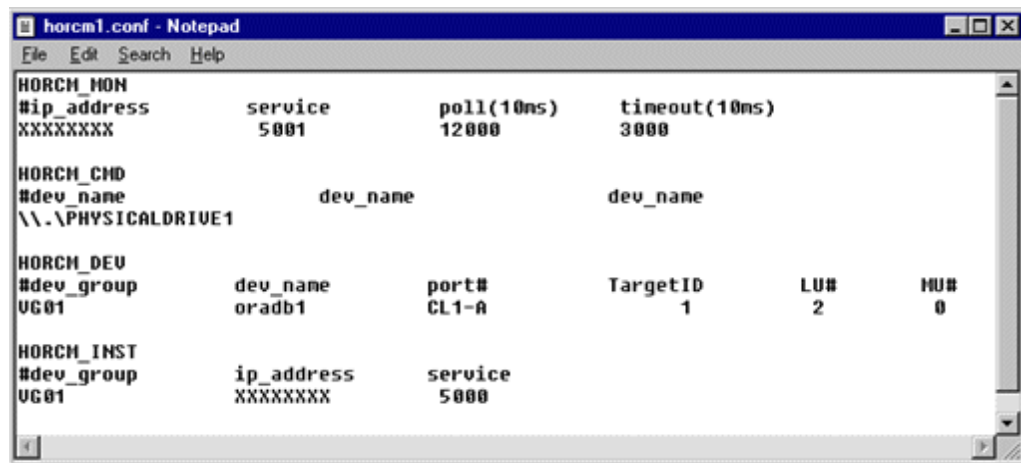

Figure C-2: Horcm1.conf example
11. Repeat steps 3 to 10 for the **horcm1.conf** file. Figure C-2 shows an example of the horcm1.conf file.